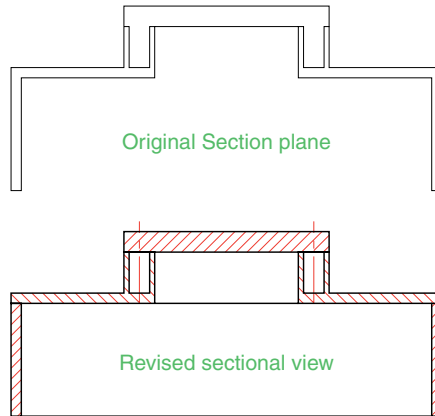

Fig. 15.29 First example – Section
First example – Section (Fig. 15.29)
The sectional view as given in the outlines (Fig. 15.29) will not be a correct view as required in general engineering drawing practice for the following reasons:
7. Amend the drawing by adding lines as necessary and hatching using the **ANSI31** hatch pattern as shown in the lower drawing of Fig. 15.29.